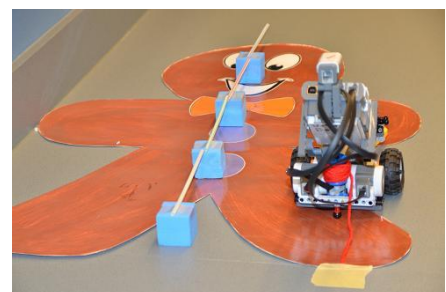

Figure 5
- Counts and records the number of craft sticks on worksheet (See Introduction for Ways to Help Students Count) (Figure 5)